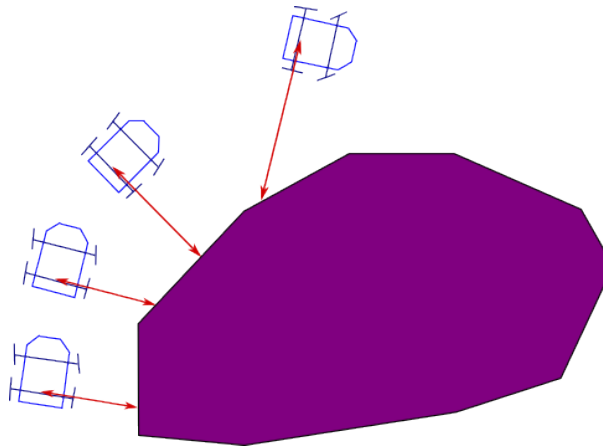

Figure 6.8: Car turning around a polygon
Here, we will address the case of a car which drives on an unknown road. The car is equipped with (i) a rangefinder which measures the lateral distance  $d$  between the rear axle of the car and the edge of the road, (ii) a speed sensor which measures the speed  $v$  of the front wheels, and (iii) an angle sensor which measures the angle  $\delta$  of the steering wheel (for reasons of simplification, we will assume that  $\delta$  corresponds also to the angle between the front wheels and the axis of the car). For our simulations, we will assume that our car is driving around a closed polygon as shown on Figure 6.8.
6) Test the behavior of your controller in the case where the car is turning around the polygon. Note that the system being controlled (in other words the turning car) by the controller is different than that it thinks it is controlling (i.e. a car in a straight line). You should obtain a behavior similar to that illustrated by Figure 6.8.